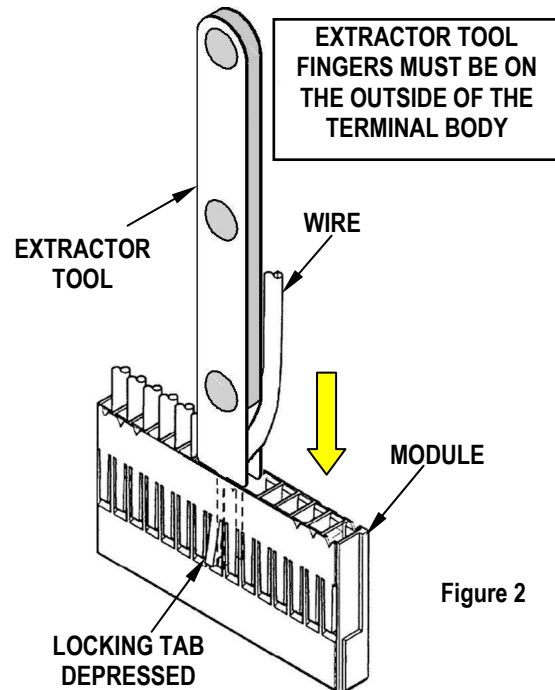

Figure 2
1. Insert the extractor tool into the module as shown in Figure 2.